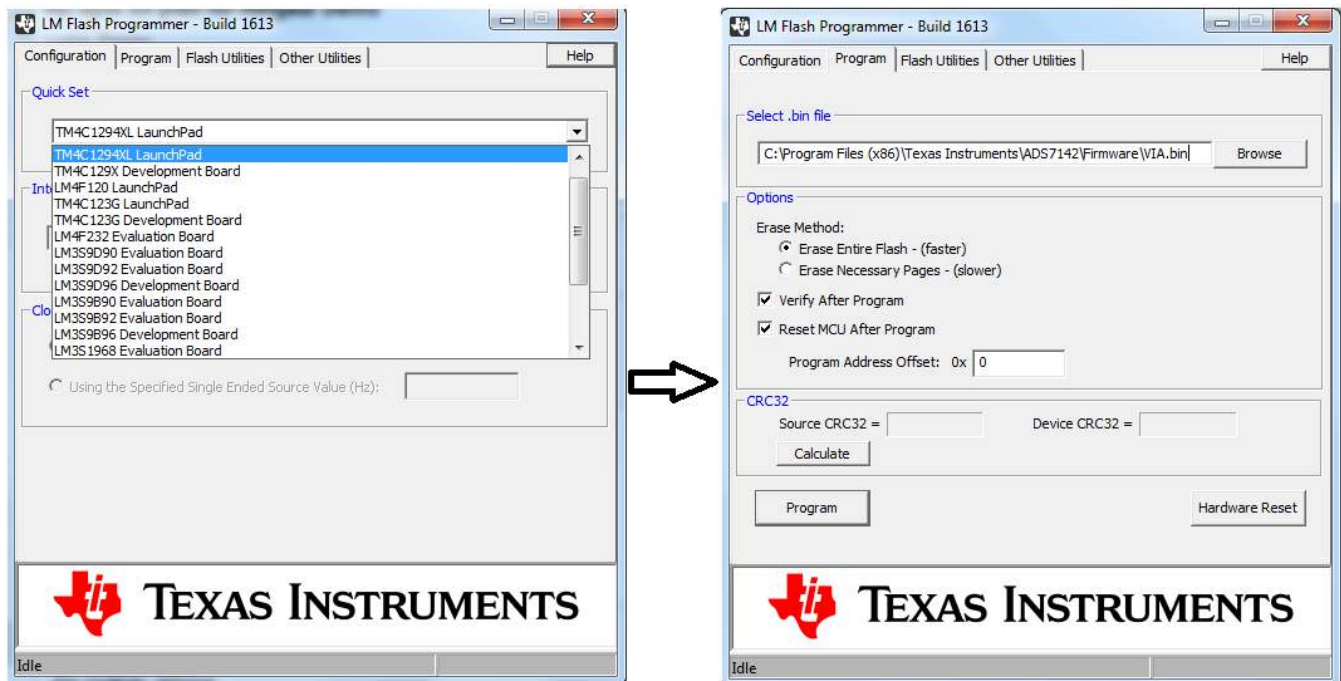

Figure 5. TM4C1294 LaunchPad™ Programming Using LM Flash Programmer
4. Program the TM4C1294 with the ADS7142 firmware as shown in Figure 5.